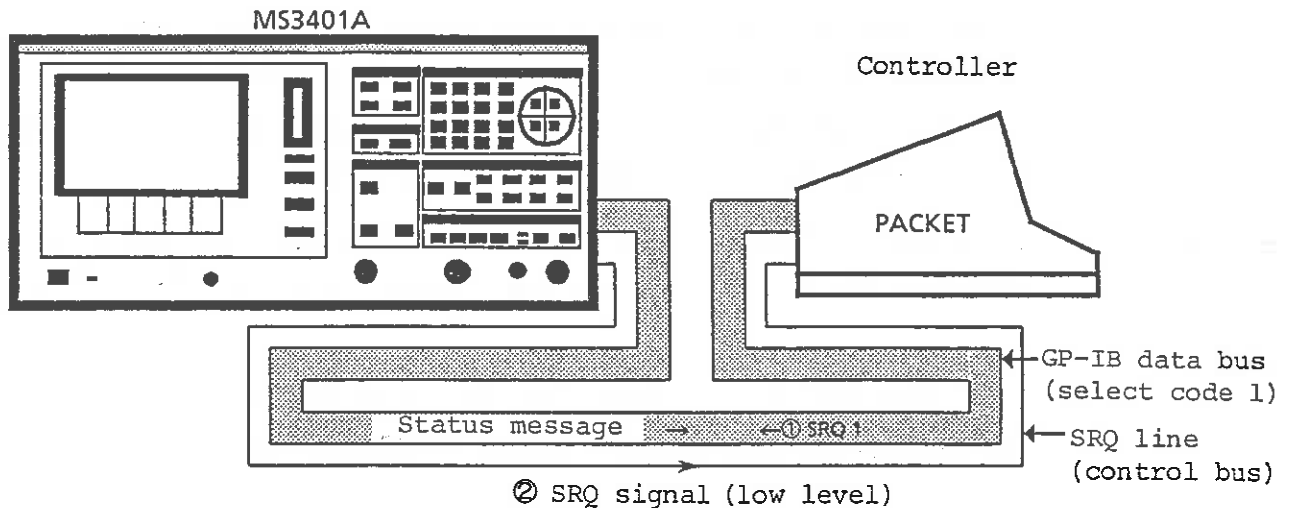

Fig. 11-2 Status Message Transmission
- (1) To turn on the MS3401A SRQ function, the controller executes WRITE @101:"SRQ 1" (Fig. 11-2 ← ① SRQ 1).
- (2) When the MS3401A receives SRQ $\Delta$ 1, the operation indicated by the shaded part of Table 1-1 is performed. That is, bit 6 is set to 1 and a service request is sent to the controller only when one of the following events takes place [Fig. 11-2, ② SRQ signal (LOW level)].